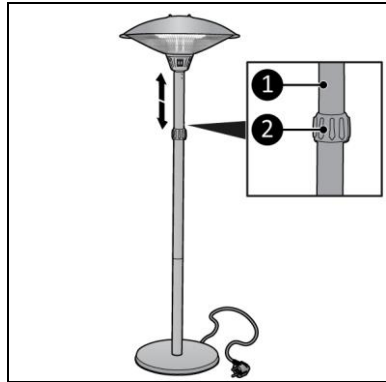

Figure 9
Take the minimum distance into consideration when adjusting the height (Figure 9).
2. Loosen the adjustment knob (Figure 9, pos. 2) and slide the adjustable tube (Figure 9, pos. 1) to the desired height.